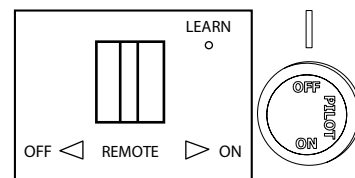

Fig. 17 - Receiver & Control Knob
- Set receiver switch to “ON” position (See Fig. 17).
3. Turn control knob clockwise  to the “OFF” position (See Fig. 17).
4. Wait five (5) minutes to clear out any gas. Then smell for gas, including near the floor. If you smell gas, STOP! Follow “B” in the safety information on the page before this. If you don’t smell gas, go to the next step.
5. Push in slightly and turn control knob counterclockwise  to the “PILOT” position (See Fig. 17). Depress control knob.